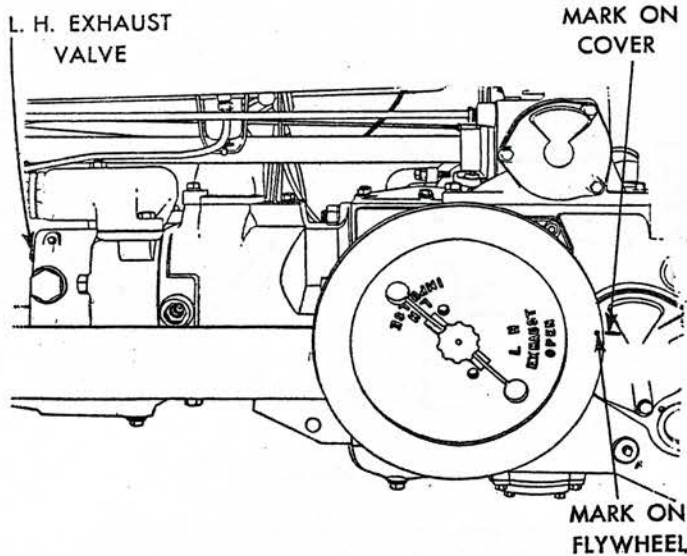

Fig. 11 Valve timing. Models BO, BR and H series
**MODELS BO, BR & H SERIES**—Valve timing is checked in the same manner as outlined above for AO and AR models except that the flywheel mark, Fig. 11, should be in line with the timing mark on the transmission cover.